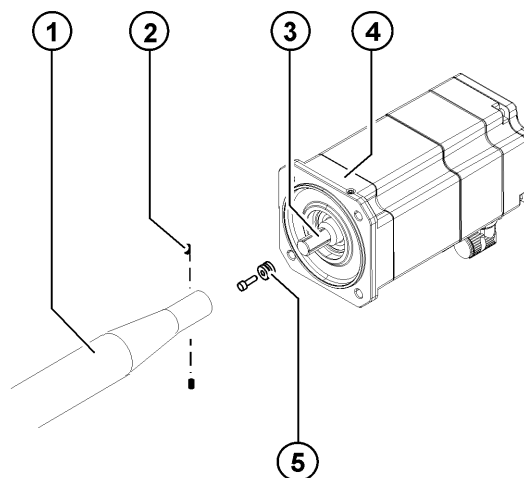

Fig. 11-10: Motor with connecting shaft
7. Slacken both setscrews (>>> Fig. 11-10) until the connecting shaft can be pulled off the tothing, and pull off the connecting shaft.